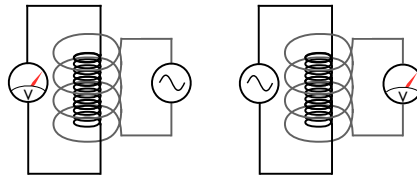

Figure 1: Schematic of your coaxial solenoids
**Question:** Why do we say the situation on the right in Figure 1 is easier to measure?